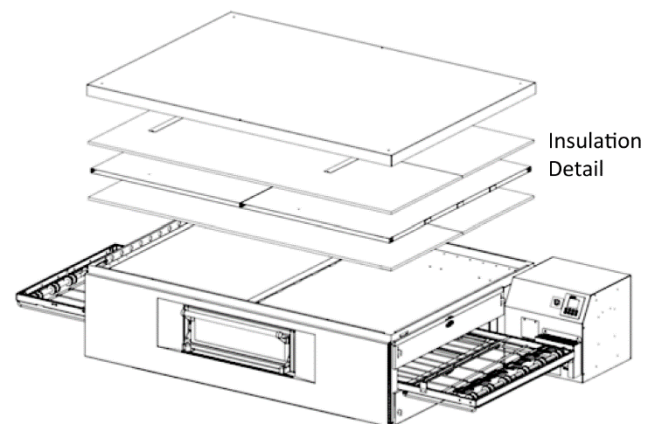

Figure 21. Top Panel Installation
2. Continue moving the conveyor into the oven until the frame protrudes equally from each end of the oven. Check that the crumb tray supports located on the underside of the conveyor frame rest firmly against the lower end plugs, as shown in Figure 21.